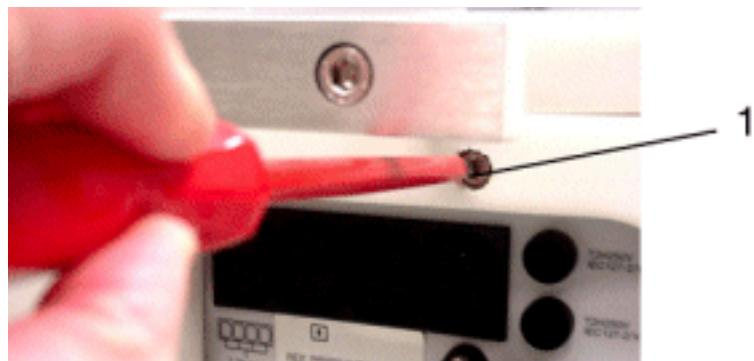

Fig.297 Side view of Caleo
4. Remove screw and washer (1), see Fig. 297.